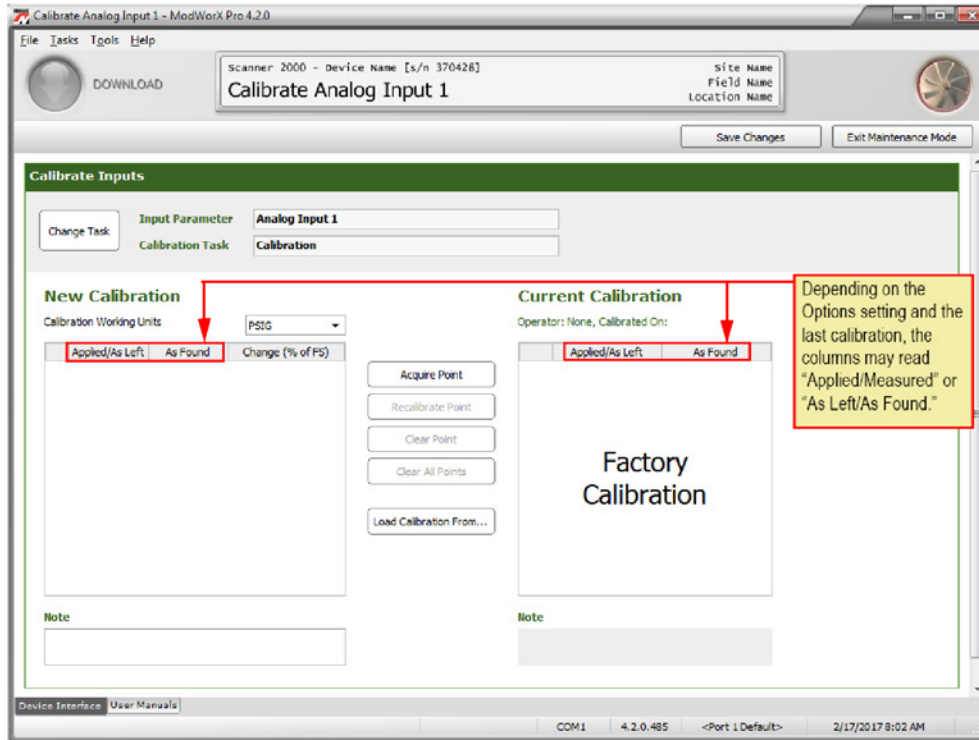

Figure 6.24
1. Observe the calibration settings at the bottom of the screen (Figure 6.24, page 94). To calibrate the sensor, click on the blue **Calibrate** hyperlink in the Sensor Calibration section and follow the screen prompts.
2. Observe the verification settings at the bottom of the screen (Figure 6.24). To verify the sensor’s calibration, click on the blue **Verify** hyperlink and follow the screen prompts.